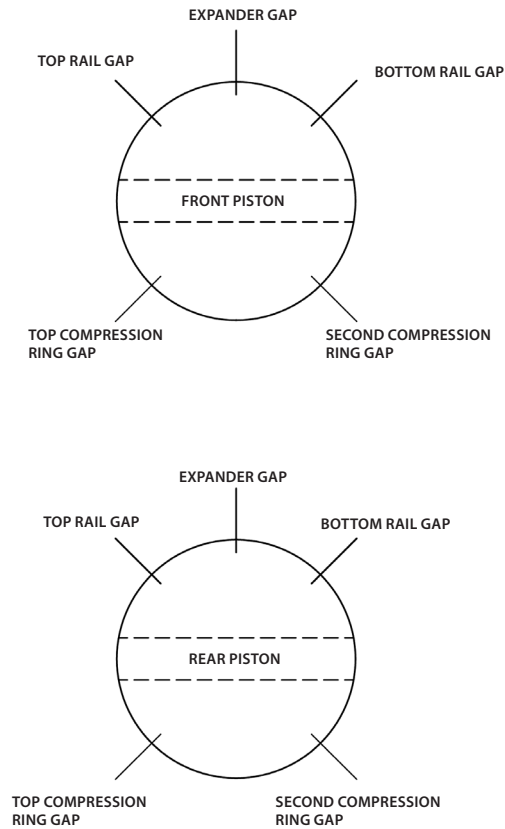

Figure 5: GAP PLACEMENT ILLUSTRATION
- Second compression ring gap should be 135° or approximately 4½" to right of oil expander gap. (See Figure 5, next page).
- Top compression ring gap should be 135° or approximately 4½" to left of oil expander gap. (See Figure 5, next page)